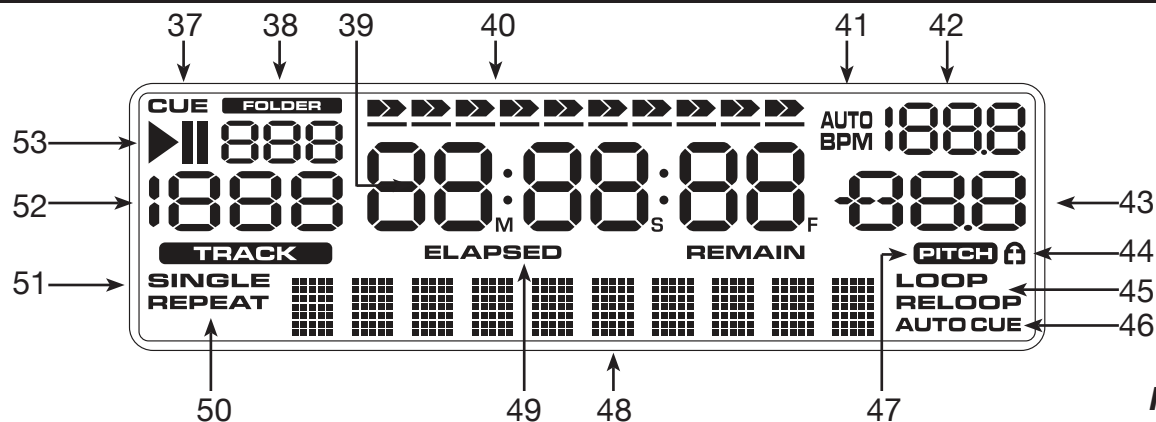

Figure 3
D. LCD DISPLAY PANEL (FIGURE 3)
43. PITCH METER - This meter will display the pitch percentage applied by the *PITCH SLIDER* (25).